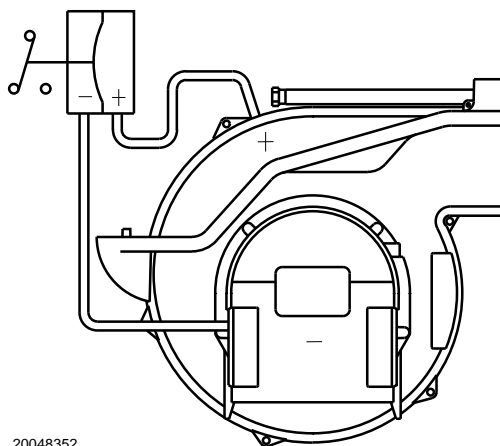

Fig. 43
- Adjust the air pressure switch to the zero position of the scale (Fig. 43).
The air pressure switch is connected in differential (Fig. 43) and is activated by both the negative pressure of the air intake and the air pressure from the fan.